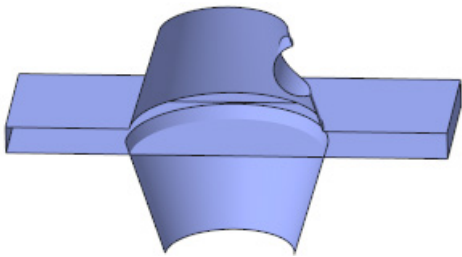

Figure 15-128 Model after merging the blend surface with the base surface
4. You can see the preview of the blend surface by choosing the **Preview** button in the dashboard. Exit the **Merge** dashboard by choosing the **OK** button. The model after merging the two surfaces is shown in Figure 15-128.